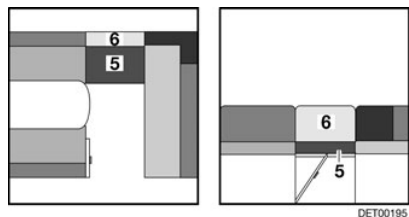

Fig. 35 After conversion
- Place the additional cushion (Fig. 35,5) on the slatted frame and the bench seat extension.
- Place the additional cushion (Fig. 35,6) on the additional cushion (Fig. 35,5).